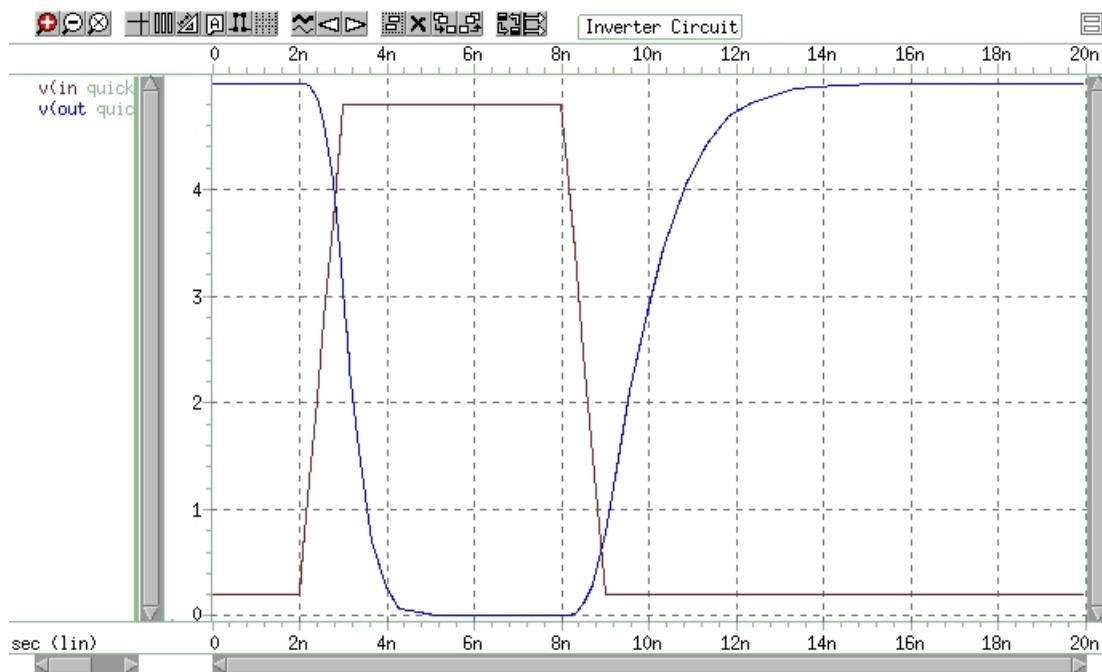

Figure 58 Voltage at MOS Inverter Node 1 and Node 2
3. Use WaveView to examine the voltage waveforms, at the inverter IN and OUT nodes. Figure 58 on page 516 shows the waveforms.